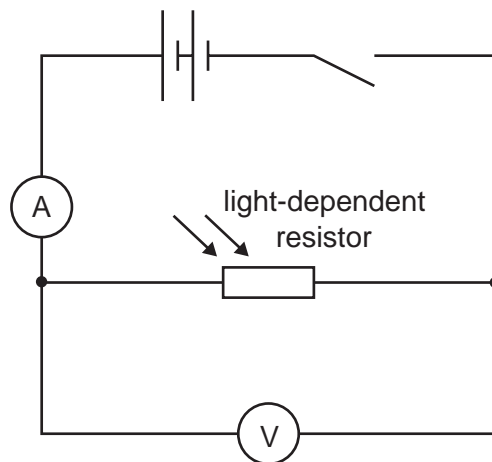

Fig. 2.1
Six connecting leads to enable the Supervisor to set up the circuit shown in Fig. 2.1.
- (ii) The Supervisor should set up the circuit as shown in Fig. 2.1. The Supervisor should check that it is possible to obtain a reading on the ammeter when the LDR is exposed to normal background light intensity. To obtain a suitable reading it may be necessary for the Supervisor to change the range of the meter, the voltage of the power supply, or the light level at the LDR (e.g. by providing a lamp).